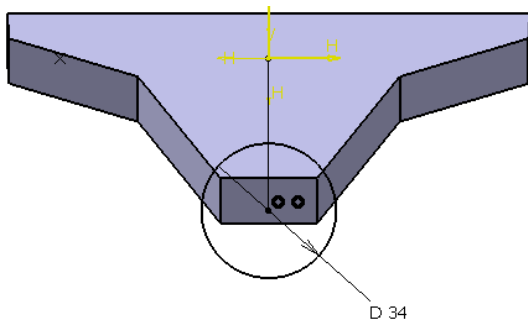

Figure 5-77 Sketch for the second feature
- Create the second feature of the model by extruding a sketch using the **Drafted Fillet Pad** tool, refer to Figures 5-77 and 5-78.
4. Use the newly created plane to invoke the **Sketcher** workbench and draw the sketch, as shown in Figure 5-77.